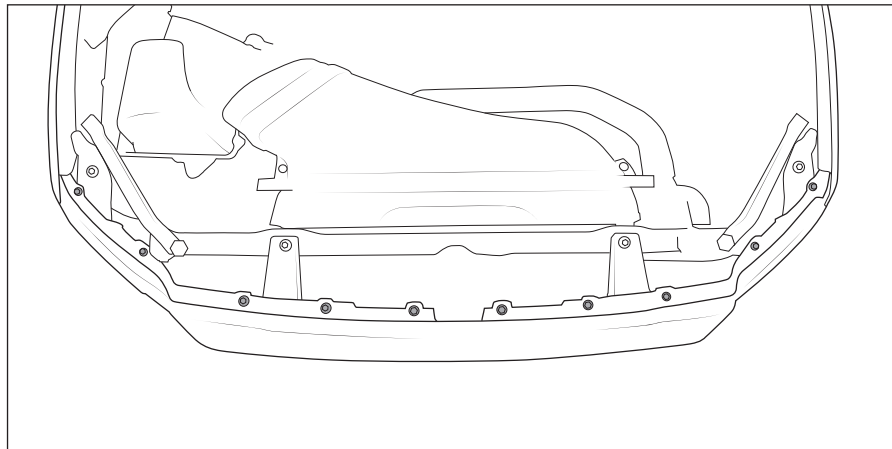

Figure 2
3. Remove the upper grille trim by removing the 10 bolts (fig. 2).